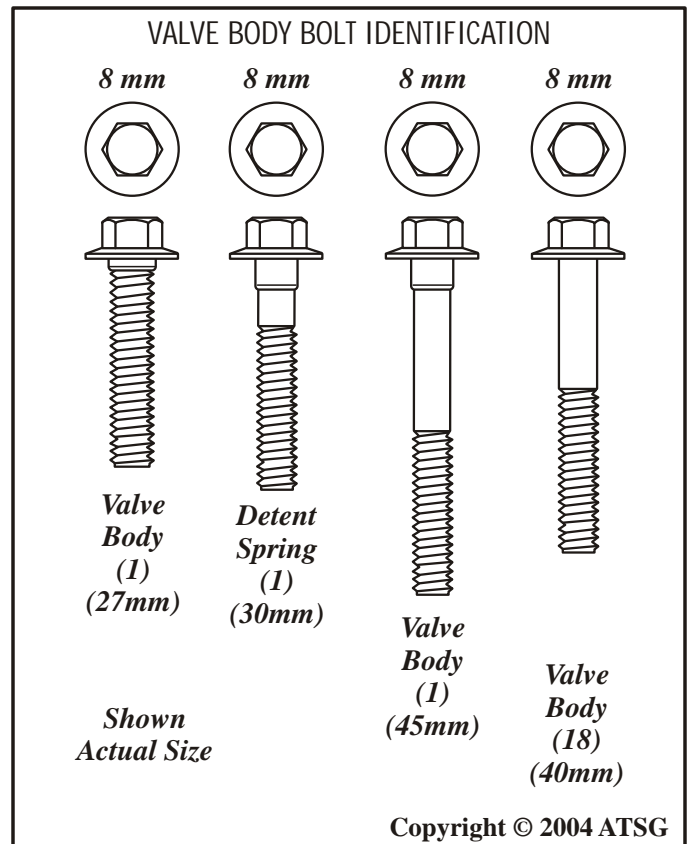

Figure 172
69. There are four different lengths of valve body bolts, as shown in Figure 172.